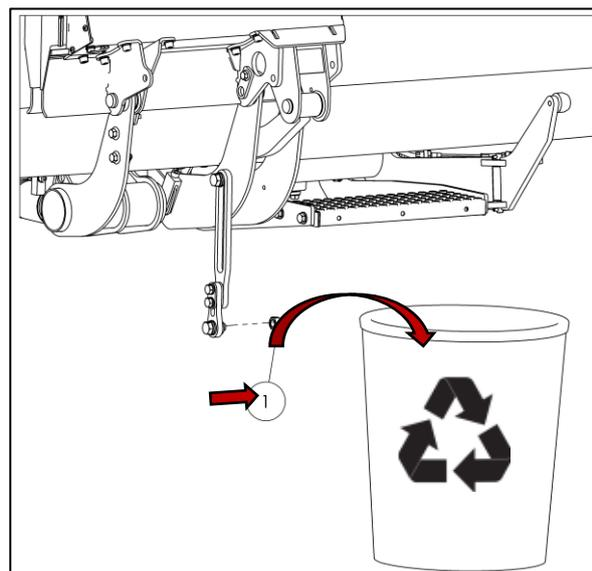

Fig. 64
- Remove and properly dispose of the nut on the transport lock (1) (see Fig. 64).